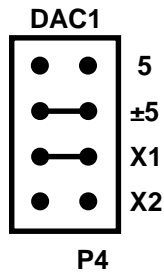

Fig. 1-4 — DAC 1 Output Voltage Range Jumper, P4
This header connector, shown in Figure 1-4, sets the output voltage range for DAC 1 at 0 to +5, ±5, 0 to +10, or ±10 volts. Two jumpers must be installed, one to select the range and one to select the multiplier. The top two jumpers set the range, bipolar (±5) or unipolar (5). The bottom two jumpers set the multiplier, X2 or X1. When a jumper is on X2, the range values become ±10 and 10. The table below shows the four possible combinations of jumper settings, and the diagram shows the factory setting. This header does not have to be set the same as P5.